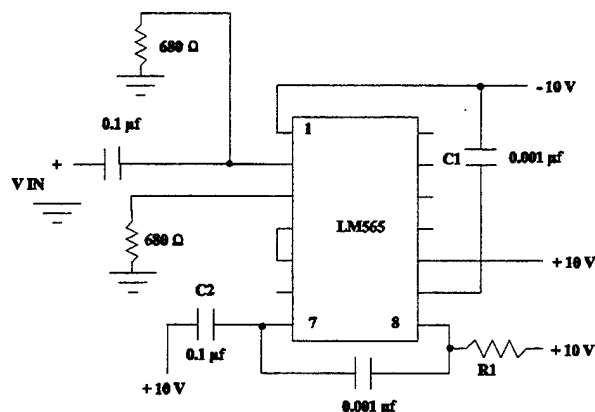

Figure 1
R_1 , f_c , and f_l for $V_{cc} = \pm 10$ volts. Component values can be found on figure 1.
b) Build the circuit shown in figure 1 using your calculated value for R_1 . Measure the actual values of the resistors and capacitors used. Connect a ground bus, a + 10 volt bus and a - 10 volt bus to your breadboard from an HP power supply.
Component values can be found on figure 1.